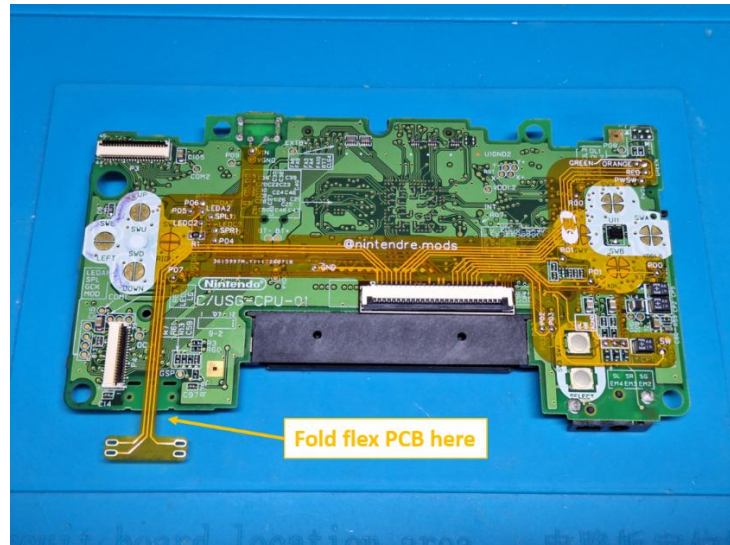

Figure 19: Button extender flex PCB soldered to DS Lite motherboard
2. Solder the button extender flex PCB to the front of the DS Lite motherboard as shown in Figure 19. Ensure that the relevant through hole pads of the flex PCB line up with the corresponding test pads on the motherboard before soldering. The through hole pads on the flex PCB have identical designations to the test pads on the motherboard.